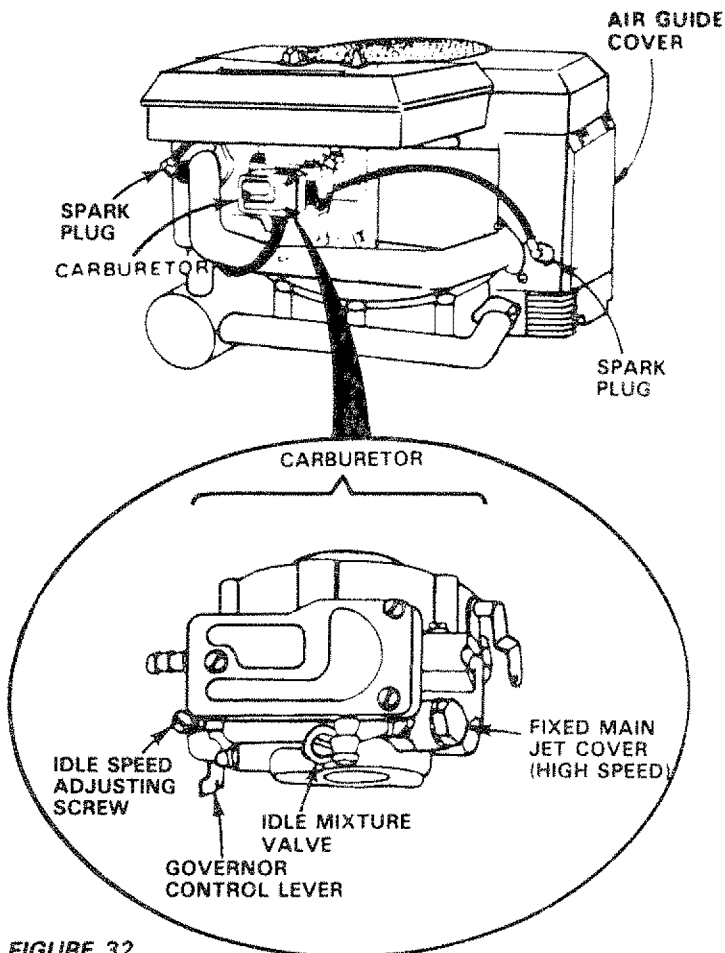

FIGURE 32
- Gently turn idle mixture valve clockwise (↻) (Fig. 32) until it just closes and then counterclockwise (↺) 1-1/2 turns.